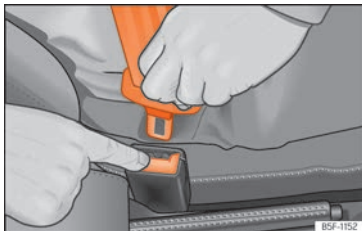

Fig. 11 Release the seat belt's buckle.
- Press the red button on the buckle » » » Fig. 11. The latch plate is released from the buckle.